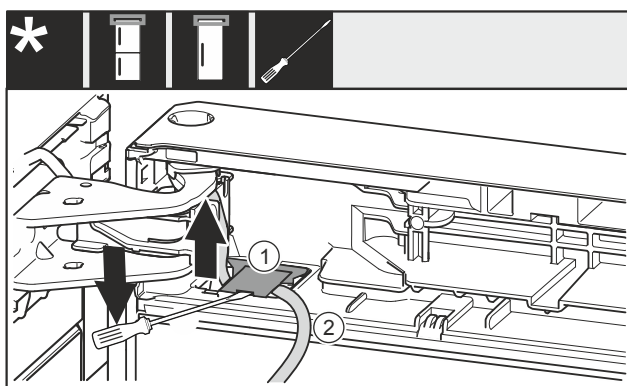

Fig. 24
- ▶ Use the slotted screwdriver to lift the cover Fig. 24 (1) up and pull it out.
- ▶ Pull out the cable Fig. 24 (2).